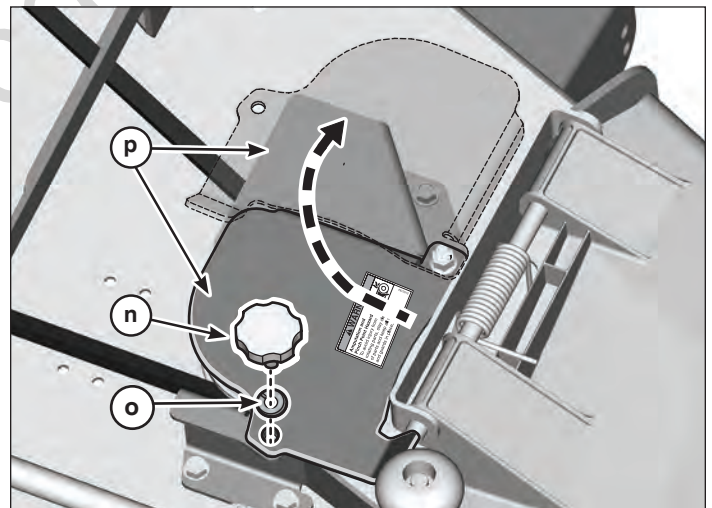

Figure 11
5. Remove and retain knob (n, Figure 11) and lockwasher (o). Rotate cover (p).